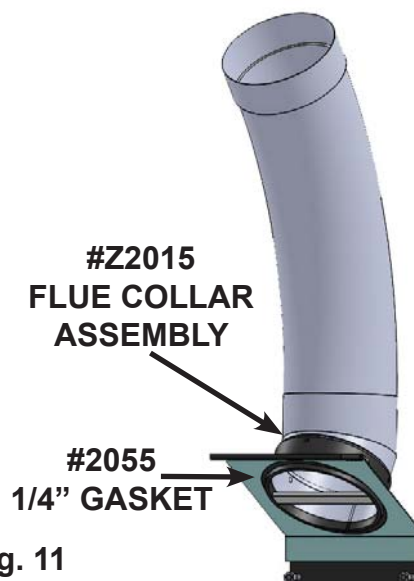

Fig. 11
- For ease of install; once chimney piping is completely installed and attached to the provided flue collar assembly / flue extension, leave flue collar hanging roughly 2 feet above the floor of the fireplace. This will enable unit to be pushed back into the fireplace opening without interference and allow for an easy grab through the bypass door opening to install. (**Fig. 11**) Ensure 1/4" gasket is intact on the bottom of the flue collar assembly before installation.